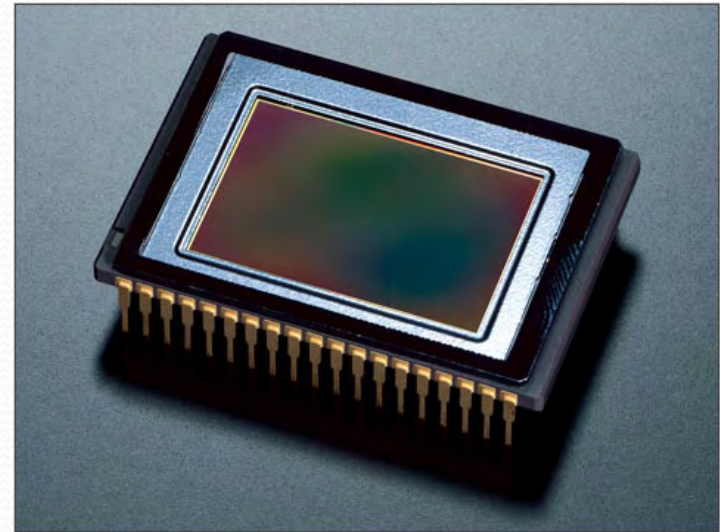

Abb. 14
- Abb. 14: <http://a.img-dpreview.com/articles/NikonD2HS/Images/sensor.jpg>